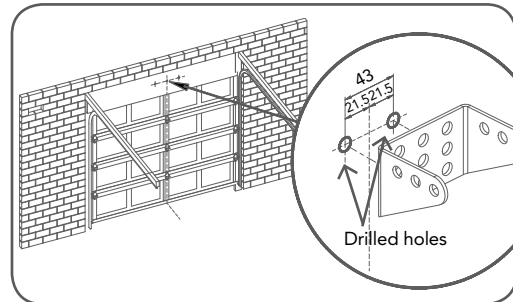

fig 17
- Determine the centre point on the wall above and on top of the door. Draw two lines extending 21.5mm from each side of the centre point. (**Fig. 17**)
- Centre the bracket over the intersection of these two lines. Mark centres for at least two holes (**Fig. 17**) and ensure it is into a solid mounting point.